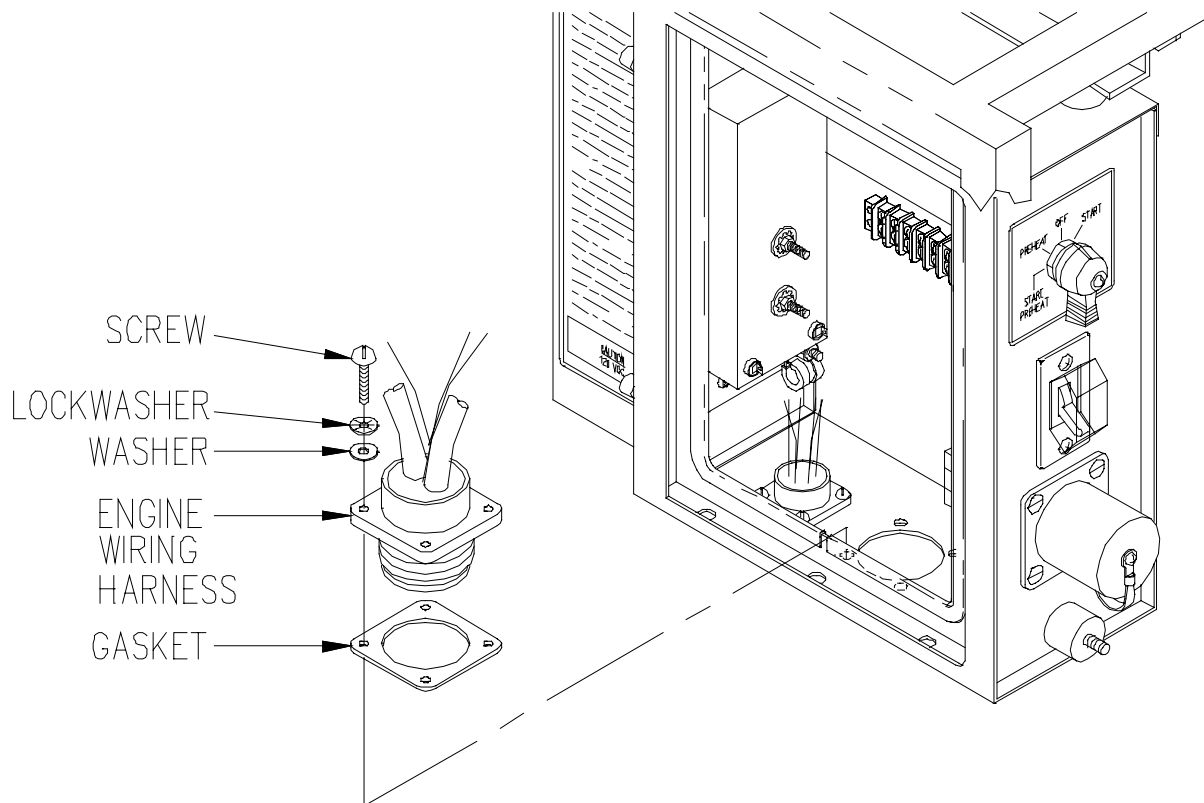

Figure 4-42. Diesel Engine Wiring Harness and Gasket, Control Panel
- (1) Shut down generator set.
- (2) Release instrument panel by turning fastener, open instrument panel slowly.
- (3) Disconnect engine wiring harness plug (P2) from receptacle (J2) of control panel engine wiring harness (Figure 4-42).
- (4) Set multimeter for ohms and check for continuity between J2 pin A and START-PREHEAT/PREHEAT/OFF/START switch (S2) pin H, J2 pin B and TB1 connector 3, J2 pin C and S2 pin S, J2 pin D and NATO slave receptacle (SR1) pin +, J2 pin E and TB1 connector 5, and J2 pin F and TB1 connector 6. (MEP-531A).
- (5) Set multimeter for ohms and check for continuity between J2 pin A and START-PREHEAT/PREHEAT/OFF/START switch (S2) pin H, J2 pin B and TB1 connector 4, J2 pin C and S2 pin S, J2 pin D and NATO slave receptacle (SR1) pin +, J2 pin E and TB1 connector 6, and J2 pin F and TB1 connector 7. (MEP-501A).
- (6) If necessary, repair wiring harness. Then connect engine wiring harness plug to control panel engine wiring harness receptacle.
- (7) Close and secure instrument panel.
- (3) Disconnect engine wiring harness plug from receptacle of control panel engine wiring harness (Figure 4-42).
- (4) Cut cable ties as necessary.
- (5) Tag and disconnect electrical leads for control panel engine wiring harness from terminals 3, 5, and 6 of TB1, terminals S and H of PREHEAT-START/PREHEAT/OFF/START rotary switch, and + terminal of NATO slave receptacle. (MEP-531A)
- (6) Tag and disconnect electrical leads for control panel engine wiring harness from terminals 4, 6, and 7 of TB1, terminals S and H of PREHEAT-START/PREHEAT/OFF/START rotary switch, and + terminal of NATO slave receptacle. (MEP-501A)
- (7) Remove screws, lockwashers, washers, control panel engine wiring harness, and gasket from control panel.